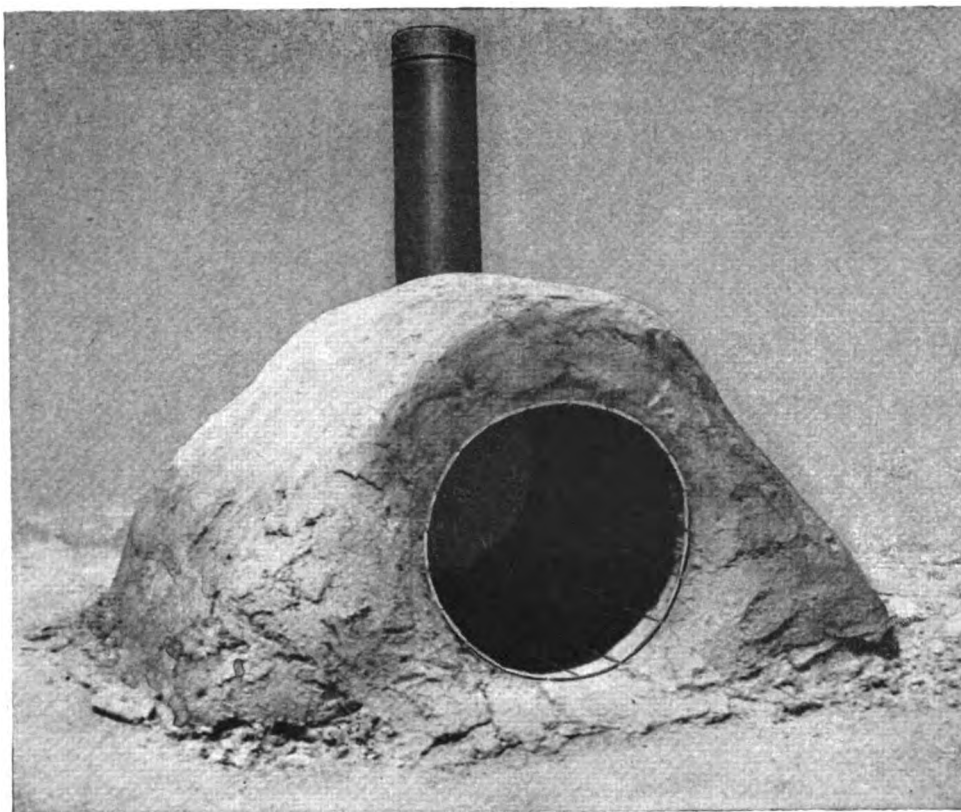

Figure 78. Single-barrel clay oven.
66. Barrel Oven (see figs. 78 and 79)